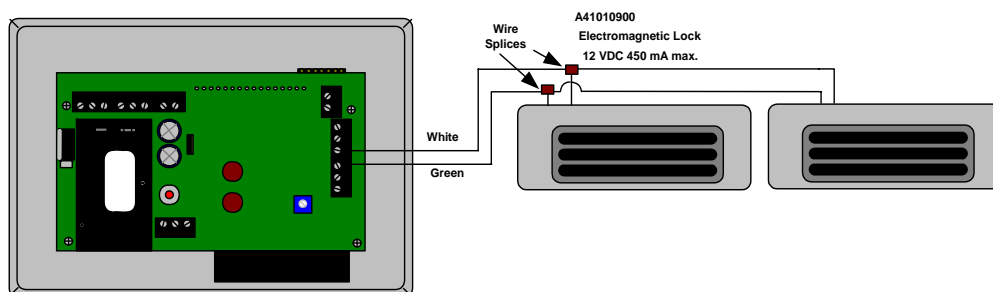

Figure 7-12 Advantage 1000DE to Multiple Delayed Egress Switch Connections
**Connecting multiple Delayed Egress Switches to the Advantage 1000DE Panel:** Refer to the manufacturer's instructions provided with the lock for proper mounting of the lock. Refer to Figure 7-12 for connections to the Advantage 1000DE panel. Use SCP Part #440 (20AWG, four-conductor) cable for connections. The green and white conductors are used for connection of the delayed egress switch. When using the Dortronic lock, an adjustment may need to be made to the thumb wheel on the lock armature for proper delayed egress operation.